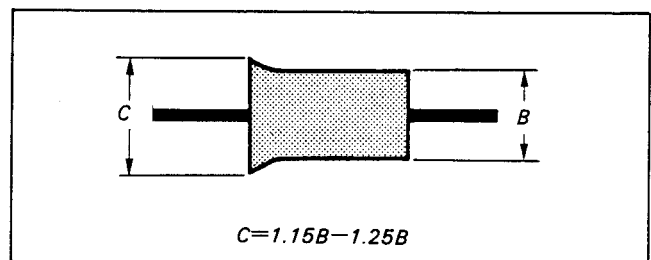

Fig. 4-9
- 5) Turn No.2 guide so that the entrance side waveform flattens slightly. (Fig. 4-9)